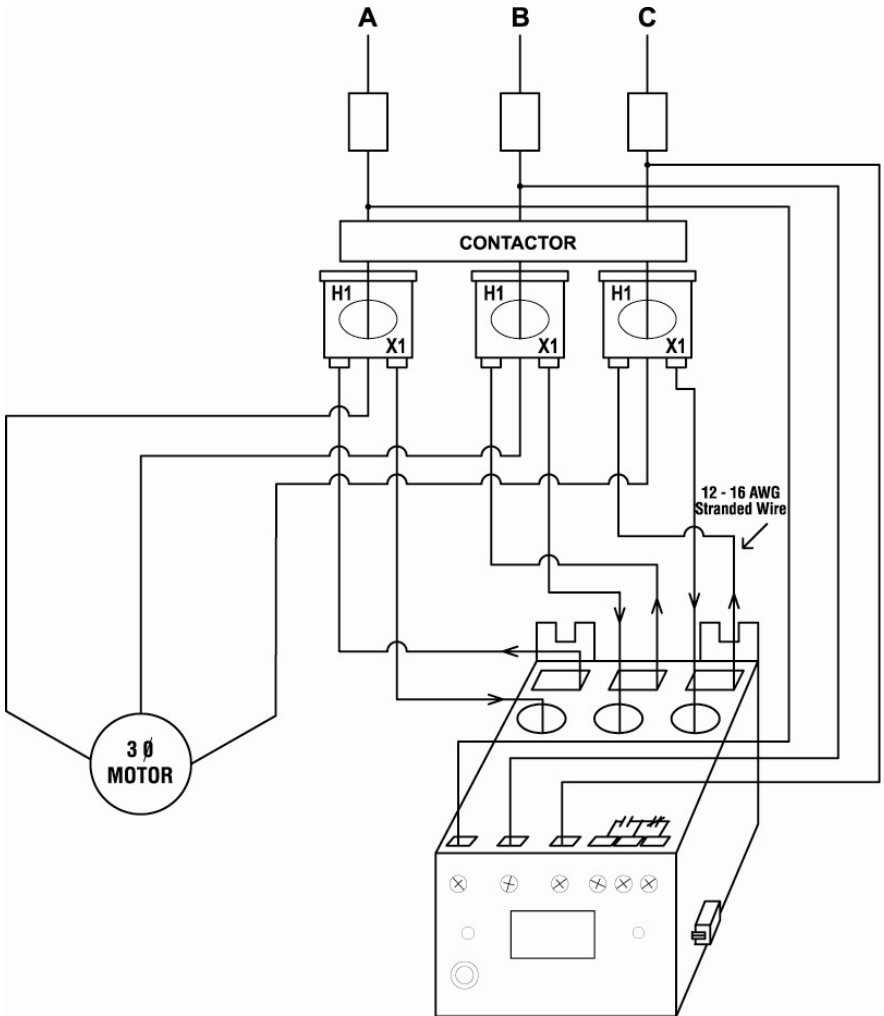

Figure 3: Typical Wiring Using External CTs²
c) For amperages greater than 9.0 amps, external CTs (current transformers) are required. SymCom recommends using CTs with terminal connections for easier installation. All CT secondaries must make one or two passes through the round holes on the MotorSaver®Plus. See Figure 3 for a typical wiring diagram using external CTs.